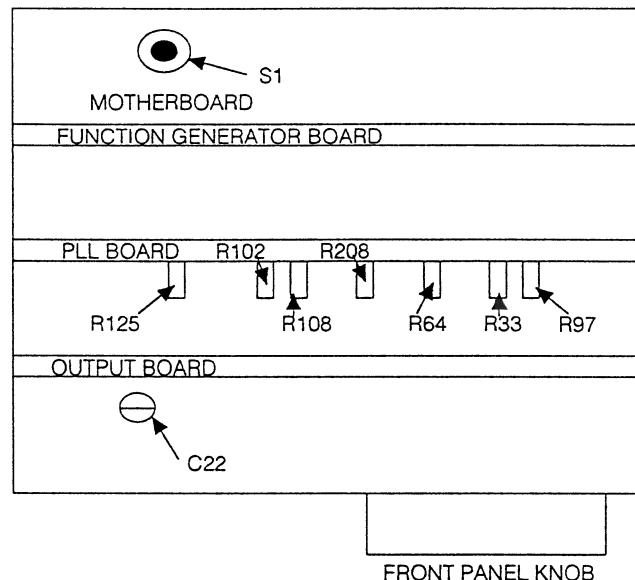

Figure 5-1. Calibration Location
3. Slide the top cover back. Press and hold down the internal calibration switch S1 (figure 5-1) while pressing the front panel CALIBRATE key.
- Set the scope controls to display the Model 288 output. Verify that the scope displays peak-to-peak aberrations are greater than 3% and less than 5%. If incorrect, adjust C22 (figure 5-1) until the reading is within specified limits.
- On the Model 288, slowly adjust the Front Panel Knob (figure 5-1) until the THD as displayed on the distortion analyzer is minimum. Verify that reading is ≤ -50 dB at 10 kHz.
Adjust R33 (figure 5-1) until waveform peaks are clearly visible in the residue.
- If incorrect, adjust R208 (figure 5-1) until reading is within specified limits.
If carrier null is incorrect, adjust R108 (figure 5-1) for minimum indication..